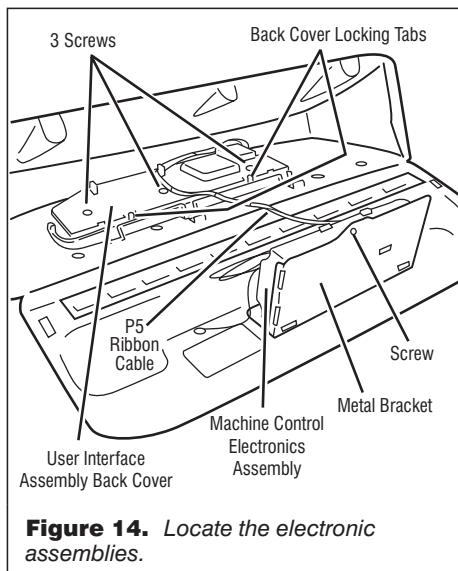

Figure 14. Locate the electronic assemblies.
There are two electronic assemblies; the machine control electronics and the user interface electronics. See figures 14 and 15.
4. Remove the one screw holding the machine control assembly to the metal bracket. See figure 14, page 11.
3. Remove the wire connections from the user interface assembly, including the P5 ribbon cable. See figure 14, page 11.
5. The user interface assembly is held to the console insert panel by three screws and two locking tabs. After the screws are removed, lift each of the locking tabs to remove the back cover of the user interface assembly. See figure 14, page 11.